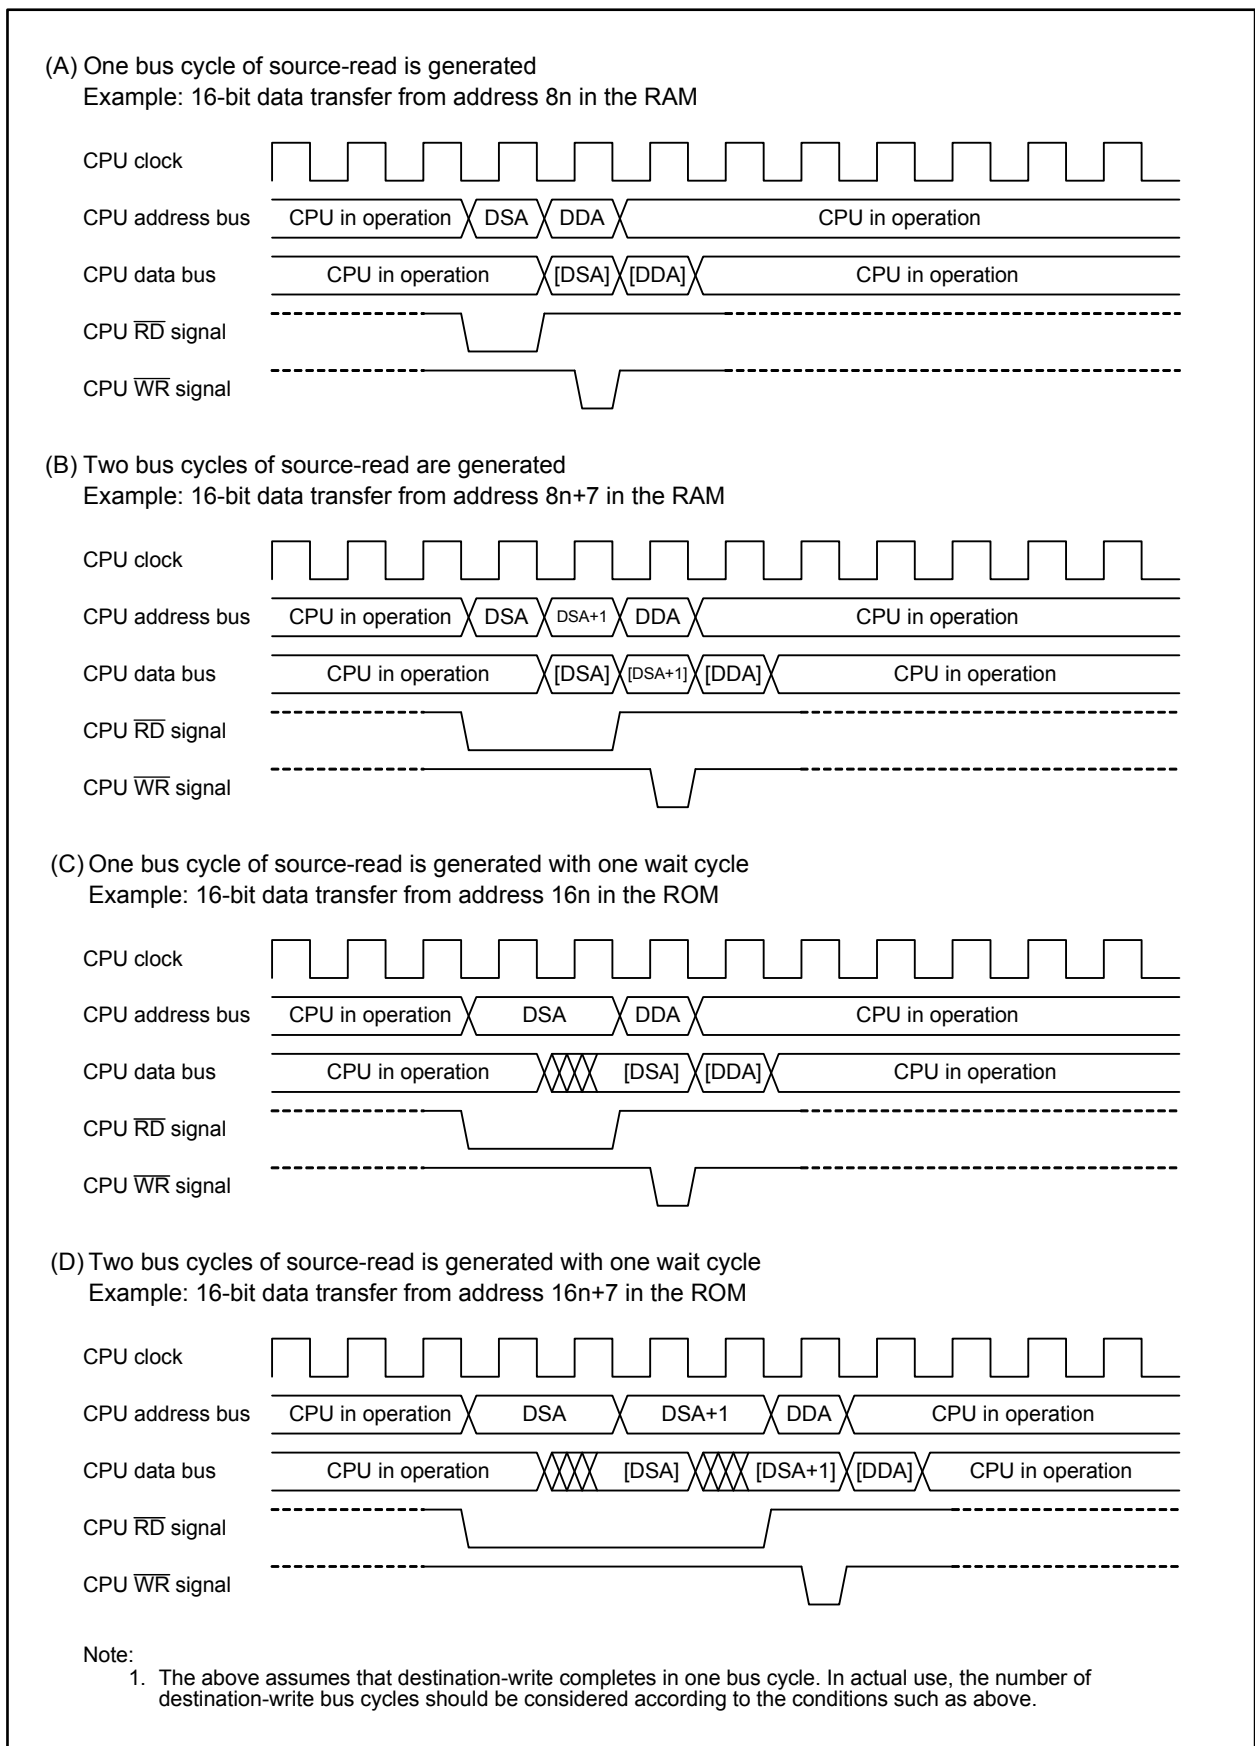

Figure 13.11 Source-read Bus Cycles in a Transfer Cycle
Figure 13.11 shows an example of source-read bus cycles in a transfer cycle. In this figure, the number of source-read bus cycles is shown under different conditions, provided that the destination address is in an internal RAM with one bus cycle of destination-write. In a real operation, the transfer cycles change according to conditions for destination-write as well as for source-read. To calculate a transfer cycle, respective conditions should be applied to both destination-write bus cycle and source-read bus cycle. In (B) of Figure 13.11, for example, if two bus cycles are generated, bus cycles required for destination-write is two as well as for source-read.